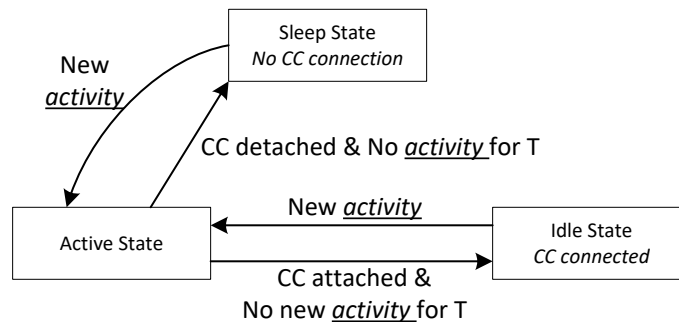

Figure 8-26. Flow Diagram for Power States
The TPS25730 can operate in one of three different power states: Active, Idle, or Sleep. The Modern Standby mode is a special case of the Idle mode. The functionality available in each state is summarized in Table 8-9. The device automatically transitions between the three power states based on the circuits that are active and required. See Figure 8-26. In the Sleep state, the TPS25730 detects a Type-C connection. Transitioning between the Active mode to Idle mode requires a period of time (T) without any of the following activity: